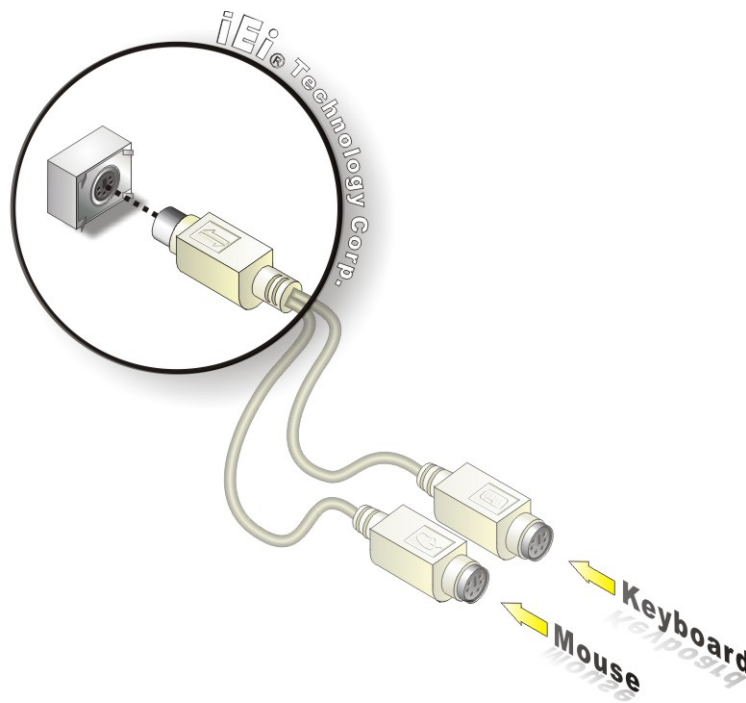

Figure 4-12: PS/2 Keyboard/Mouse Connector
Step 2: **Insert the keyboard/mouse connector.** Insert the PS/2 connector on the end of the PS/2 y-cable into the external PS/2 connector. See Figure 4-12.